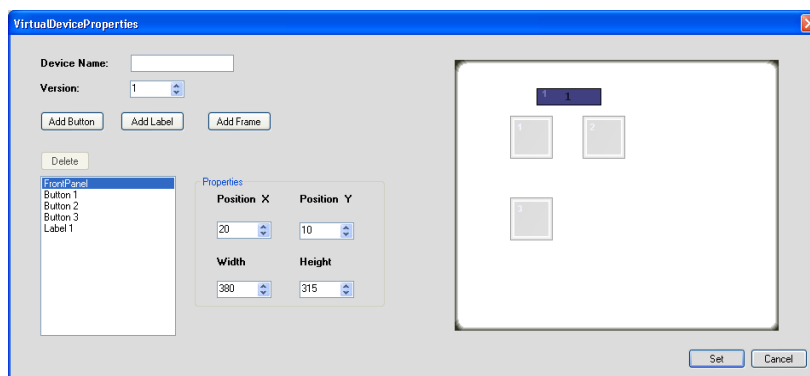

Figure 19: Editing the Virtual Device Appearance (Step 1)
1. In the Virtual Device Properties window, delete buttons 6, 5 and 4 (the order will always be from the higher number to the lower²), frame 2 and frame 1, and Label 2, as illustrated in Figure 19: